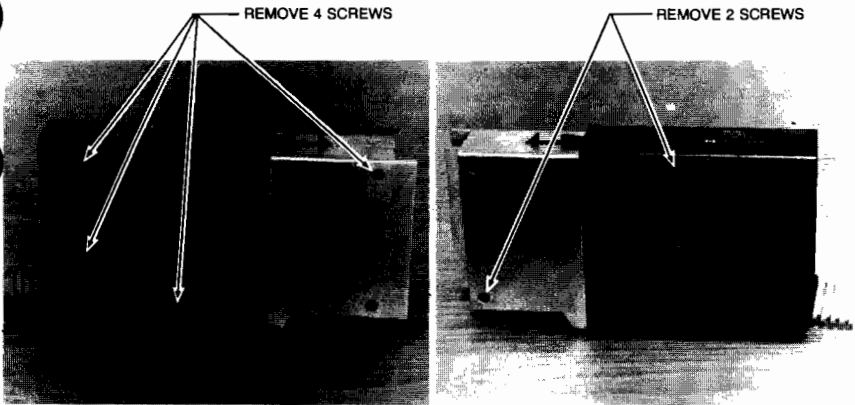

Figure 3-12. 98029A Interface Access Screws
7. Workstation installation data. Configure the 98629A interface in a 9826 or 9836 using the controller installation data. The 9845B/C workstations require configuration of the 98029A card as shown in figures 3-12 and 3-13.